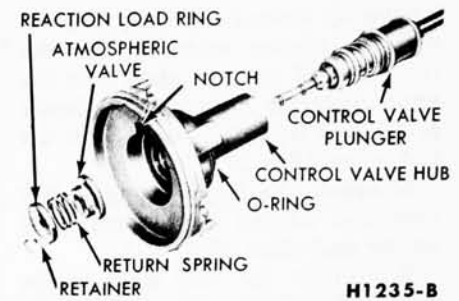

FIG. 22—Assembly of Control Valve Components to Valve Hub
1. Insert the control valve plunger into the control valve hub from the rear of the hub (Fig. 22).
6. Install the rubber reaction ring in the valve hub so that the ring locating knob indexes in the notch in the hub (Fig. 22), with the ring tips toward the front (Fig. 19).